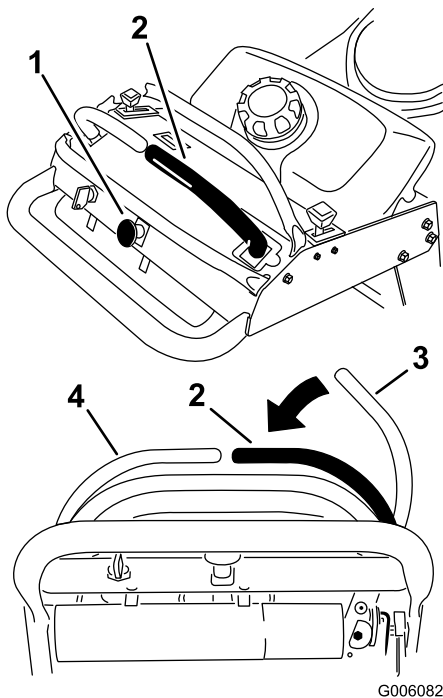

Figure 8
1. To engage the mower blades, move the right side motion control lever to the center, un-locked position (Figure 8).